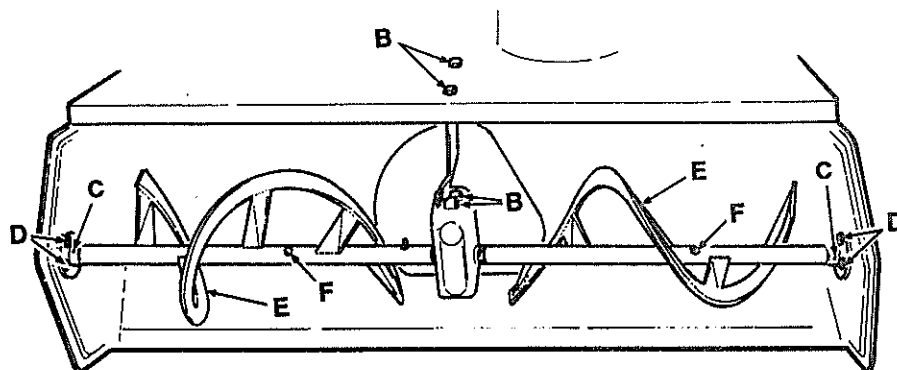

Figure 6-19
8. Remove screws securing gearbox support to housing (B, Figure 6-19) and gearbox.
9. Loosen set screws on ends of auger bearing collars (C). Remove screws securing bearings (D). Slide collars and bearings inward against the augers (E).
12. Remove shear pins (F, Figure 6-19) from augers. Mark augers with masking tape and label them left and right to aid in re-assembly.